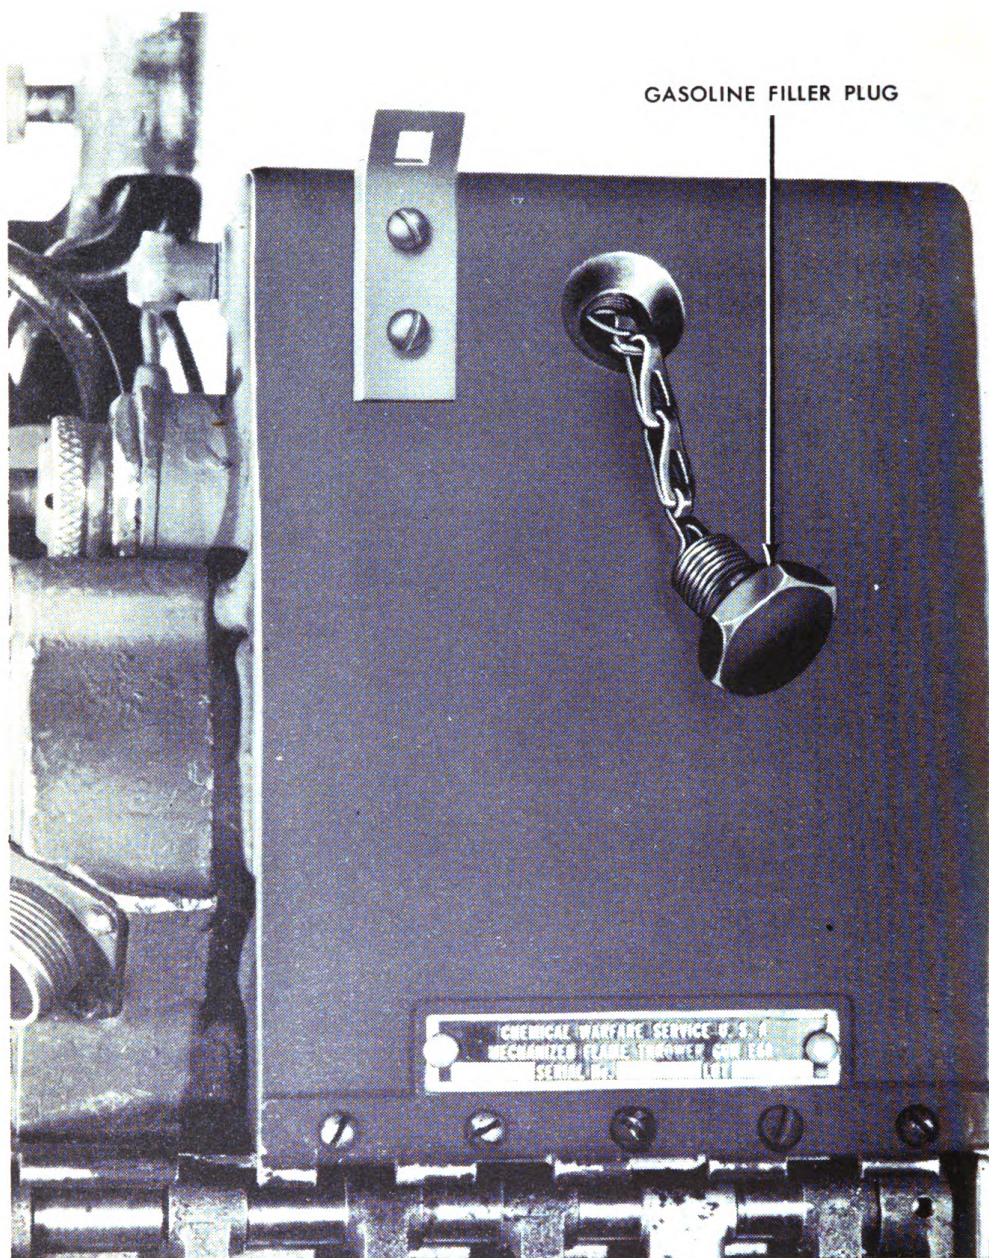

Fig. 86. Gasoline filler plug unscrewed from gasoline reservoir.
(1) Gasoline reservoir. The upper portion of the housing assembly is the gasoline reservoir which holds approximately 1-1/4 pints of gasoline. A filler opening, through which the reservoir is filled, is located on the front of the reservoir and is closed by the gasoline filler plug (fig. 86).
(2) Pump. The pump is screwed into the reservoir above the coil tube. A gasket effects the seal with the reservoir.